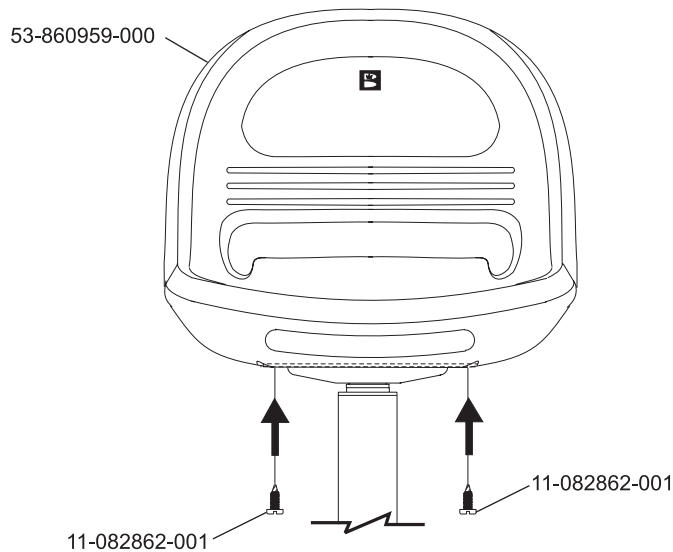

Figure 5
5. Install the plastic seat, package # 53-860959-000, by installing four self tapping screws, part # 11-082862-001. *Figure 5*.